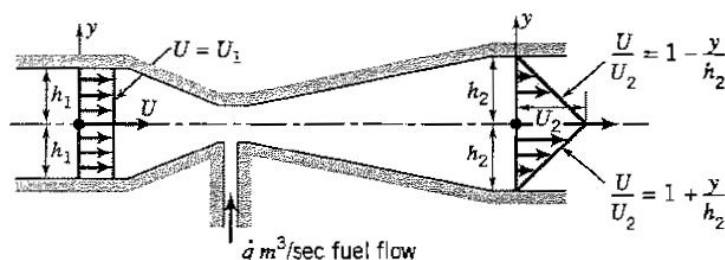

Figure P3.25
3.25 Figure P3.25 shows a sketch of a simple carburetor. The air enters from the left with a uniform velocity, and flows through a contraction where fuel-rich air of the same density enters at a rate of $\dot{q} \text{ m}^3/\text{s}$. The mixture then exits on the right with a triangular velocity profile as shown. The flow is steady, and the cross-sectional areas at stations 1 and 2 are rectangular of constant width W . Assume that all velocities are normal to their respective areas. Find \dot{q} when $U_2 = 2U_1$.